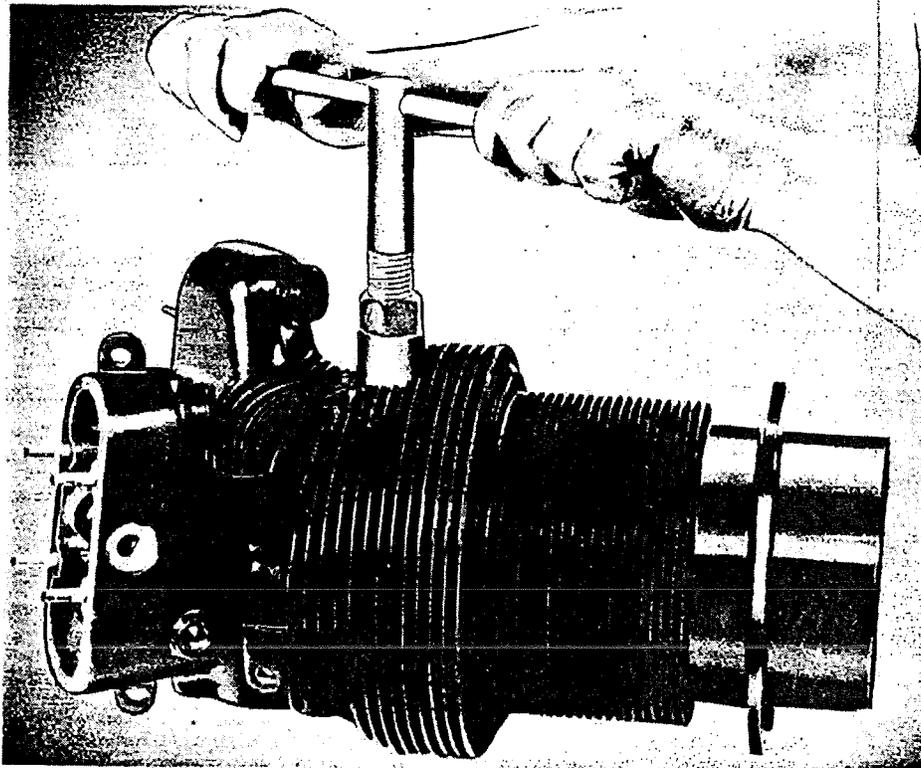

Figure 22 - Installing Spark Plug Bushing
2. Drive the bushing, part No. 400-A, into the head using Bushing Driver (Tool No. T-20000), MAKING CERTAIN THAT THE BUSHING IS FIRMLY SEATED AGAINST THE COUNTERBORE IN THE CYLINDER HEAD. Refer to Figure 22. It is usually unnecessary to heat the head or chill the bushing, although if the bushing is chilled, the additional clearance will facilitate proper seating of the bushing. Making certain to avoid the location of the original dowel pin hole, drill a No. 23 (.154) hole, 17/64" deep for pinning the bushing in place. To avoid cutting the rubber bands, the hole must be drilled at the extreme edge of the bushing and at an angle of 5° with the axis of the bushing. The hole will usually break through the edge of the bushing slightly. Drive pin, Part No. 450, into drilled hole making certain the pin is below the face of spark plug bushing. Peening of the bushing to retain the pin is unnecessary and may distort the bushing shoulder. After the bushing is pinned in place re-tap spark plug threads, 18 MM., P.D. .6762/.6713 with Spark Plug Tap (Tool No. T-6059), and re-